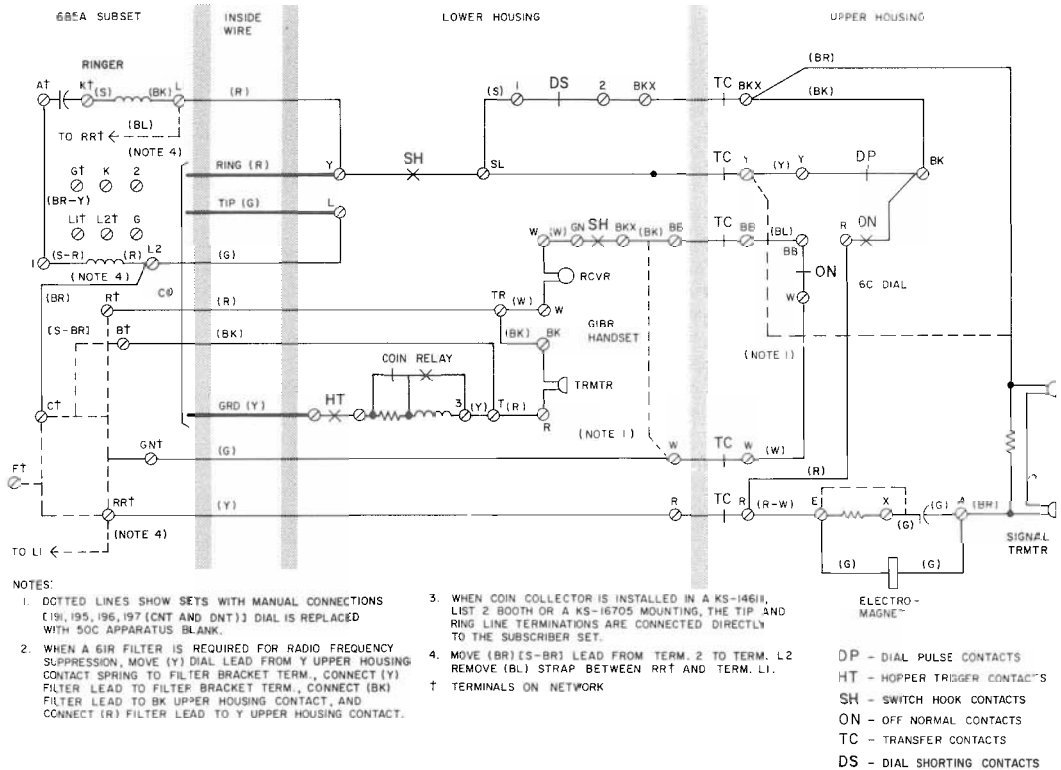

Fig. 23—Prepay Network-Type Coin Collector Circuit
5.01 The talking circuit is the same as the one used in conventional telephones, except for the addition of two signal transmitters and an electromagnet in series in the primary circuit, as shown in Fig. 23.
**5.29** The coin-relay switch assembly consists of two pairs of spring contacts (see Fig. 23). One pair, which is normally open, closes when the trigger is tripped by a deposited coin and connects ground through the coin-relay winding to the tip side of the line. The connection to the tip side of the line is made through the center tap connection of the network or induction coil. This balances the talking circuit to ground and prevents excessive inductive noise interference.